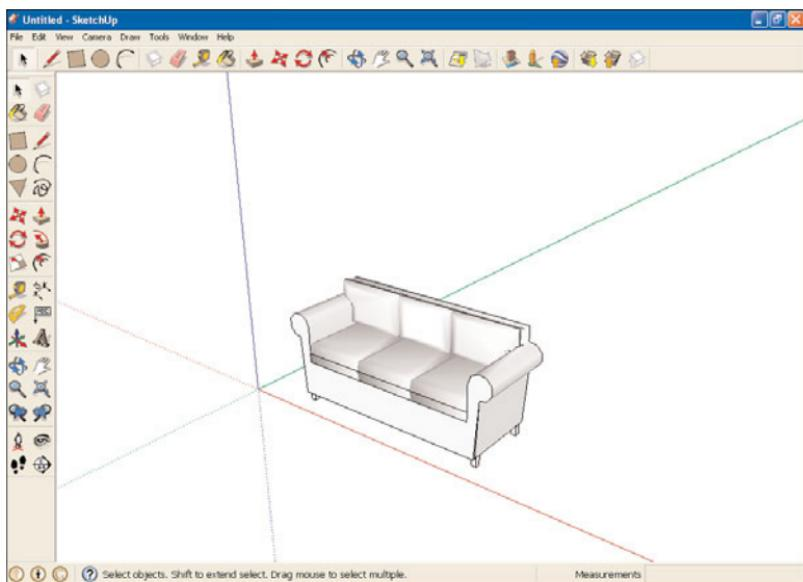

FIGURE 6.18 A new couch.
8. To place the component instance in your model, move the mouse to the location at which you want the component to appear, and click it. The component becomes anchored to the location of the mouse click, as shown in Figure 6.18.